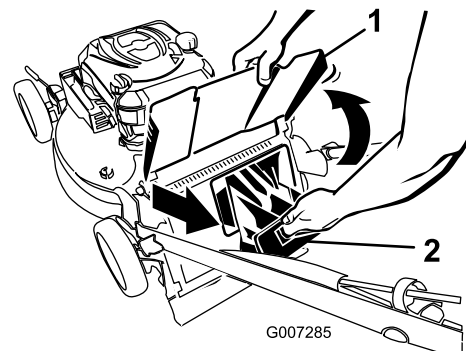

**Figure 29**
1. Route the starter rope around the lower rope guide (Figure 29).